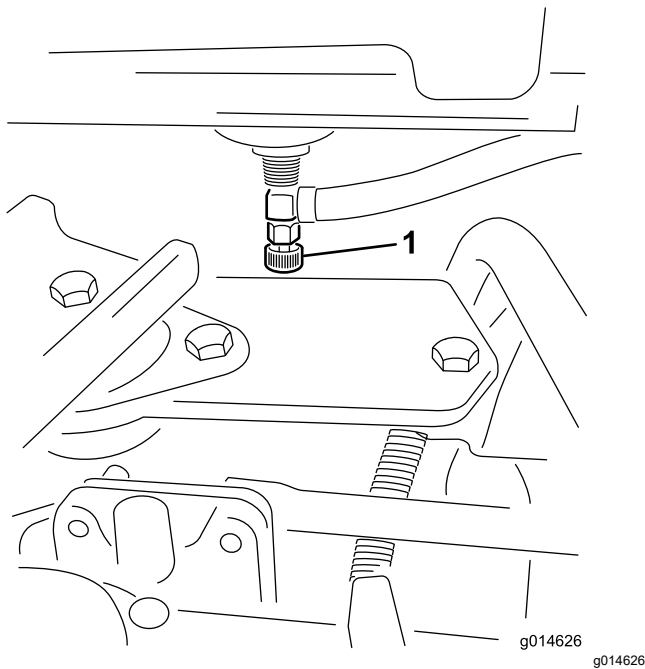

Figure 38
1. Close the fuel-shutoff valve (Figure 38) below the fuel tank.